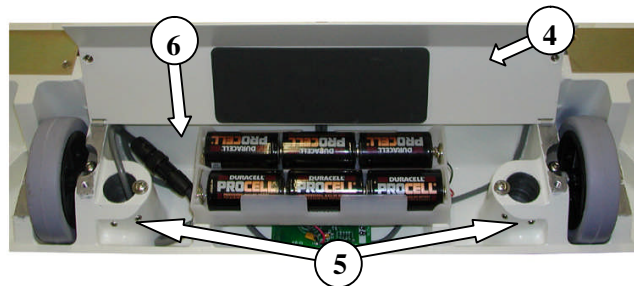

Figure 2: Location of Mast Pipe Set Screws and Display Cable Connection
STEP 6: (Figure 2) Attach the Display Cable Connector (6) to its mate in the Base Assembly. Slide the extra cable back up into the Mast Pipe
STEP 7: Install the six (6) “D” cell batteries as indicated on the Battery Compartment Cover label. Tightly close the cover.
STEP 5: (Figure 2) Gently rest the scale on its side and open the Battery Compartment Cover (4) located in the Base Assembly between the wheels. Make sure the Mast Pipes are seated against the bottom stops and securely tighten the Mast Pipe Set Screws (5) using a small amount of Loctite®.